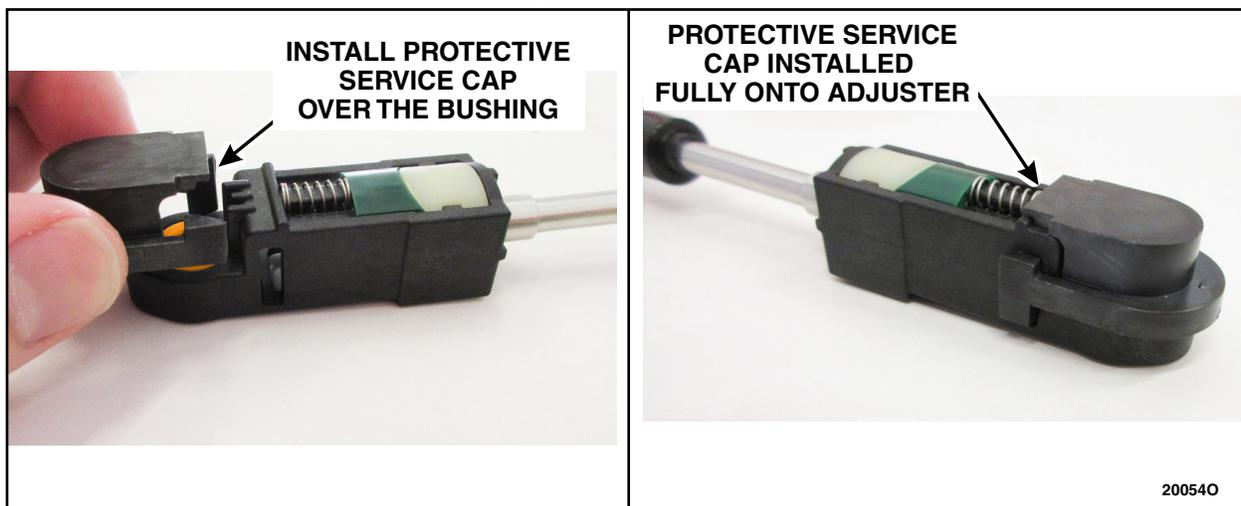

**FIGURE 14**
15. Slide the adjuster tab in place to lock the selector lever cable. See Figure 14.